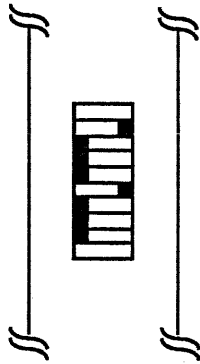

Figure 3.3.1-2 *Stand-alone Mode Switch Settings*
- 2) To power up the CIG, turn ON the main breaker, the 6U power switch, and the 9U power switches, in this order. See Figure 3.3.1-2 for switch locations.